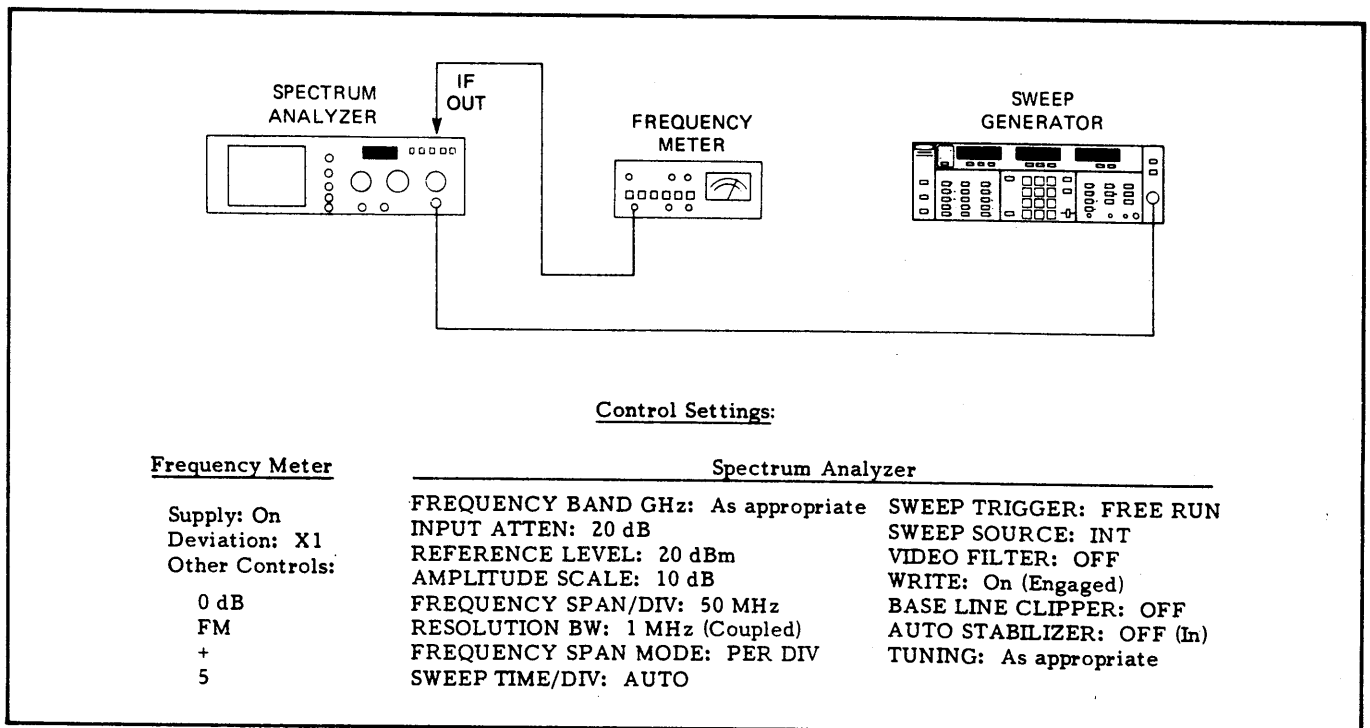

Figure 4-9. Test Equipment Setup for Residual FM Test, .01 to 20 GHz
a. Connect the test equipment as shown in Figure 4-9, 4-10, or 4-11 as applicable.